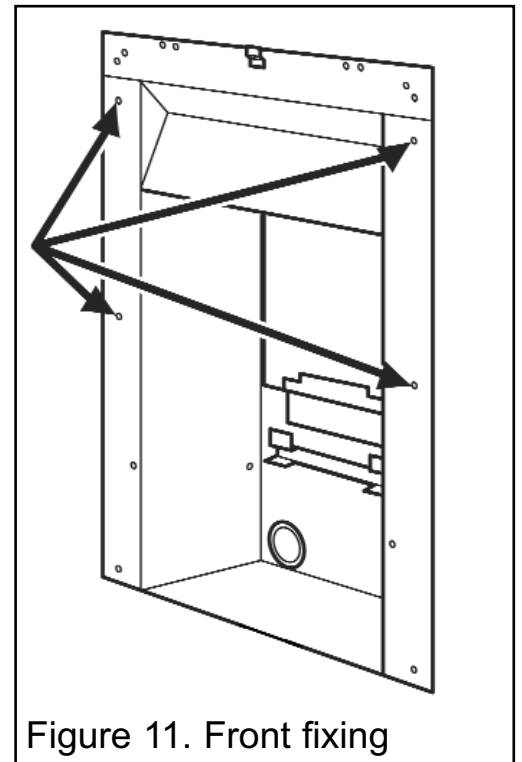

Figure 11. Front fixing
3. Mark the fireplace front surround through the four fixing holes in the side flanges of the convection (See figure 11).